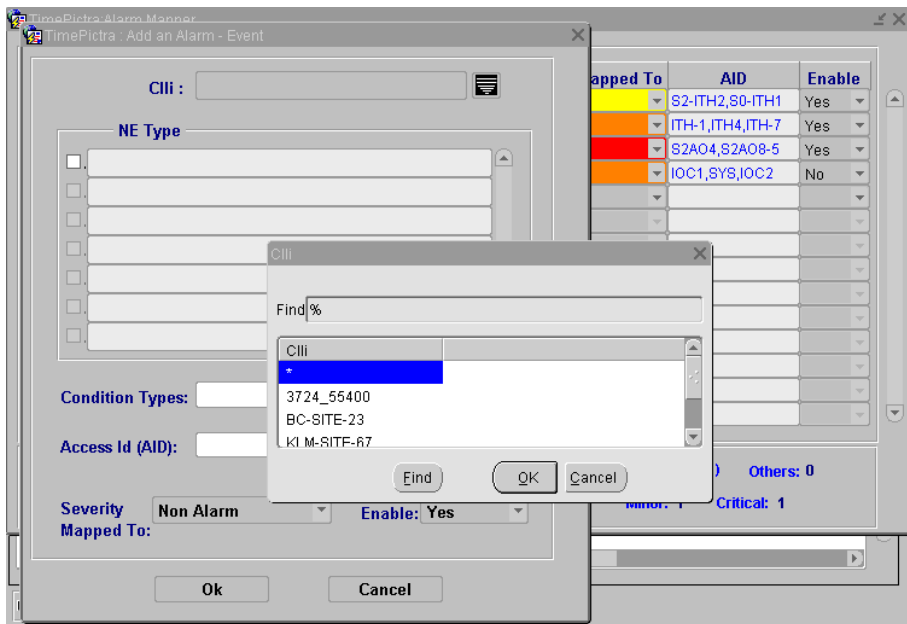

Figure 6-16. Network Element List
3. Click  located to the right of the CLLI: display box to open the CLLI (i.e. unique NE name) screen to see a list of network elements (NEs) (Figure 6-16). Select * for all NEs, or select a specific NE and click **OK**.